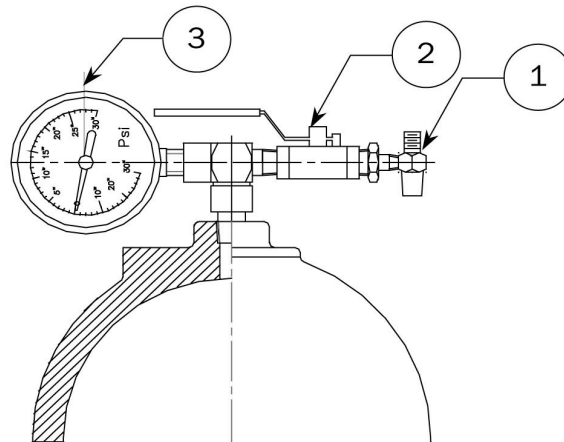

Figure 2
1. Close the ball valve (Part ② on Figure 2).
3. Attach a compressed air line with an air chuck (not included) to the venturi valve (Part ① on Figure 2).
4. Open the ball valve. As compressed air flows through the venturi valve, observe the compound pressure gauge (Part ③ on Figure 2) on the dampener. As soon as the gauge reads 5" to 6" Hg vacuum (-0.17 to 0.20 bar), close the ball valve. If the ball valve is left open too long while adding compressed air pressure to the venturi valve, the bladder/bellows will be drawn all the way up to the top of the dampener. This will eliminate the vacuum pull of the bladder/bellows making the dampener less effective. If this occurs, turn the pump off, add 10 psi (0.7 bar) pressure to the dampener to push the bladder/bellows back down, and repeat steps 1 through 4.
5. The vacuum observed on the dampener's compound pressure gauge (Part ③ on Figure 2) should read approximately the same as that on the inlet pipe's compound gauge, and needle fluctuations should now be minimal. The vacuum may need to be adjusted up or down to obtain minimum movement on the inlet pipe's compound gauge.
2. Attach a compressed air line with an air chuck (not included) to the venturi valve (Part ① on Figure 2).
4. With a finger partially covering the exhaust air from the bottom of the venturi valve, watch the compound pressure gauge on the dampener (Part ③ on Figure 2) until it reaches 50%, not to exceed 30 psi (2 bar), of static inlet pressure.